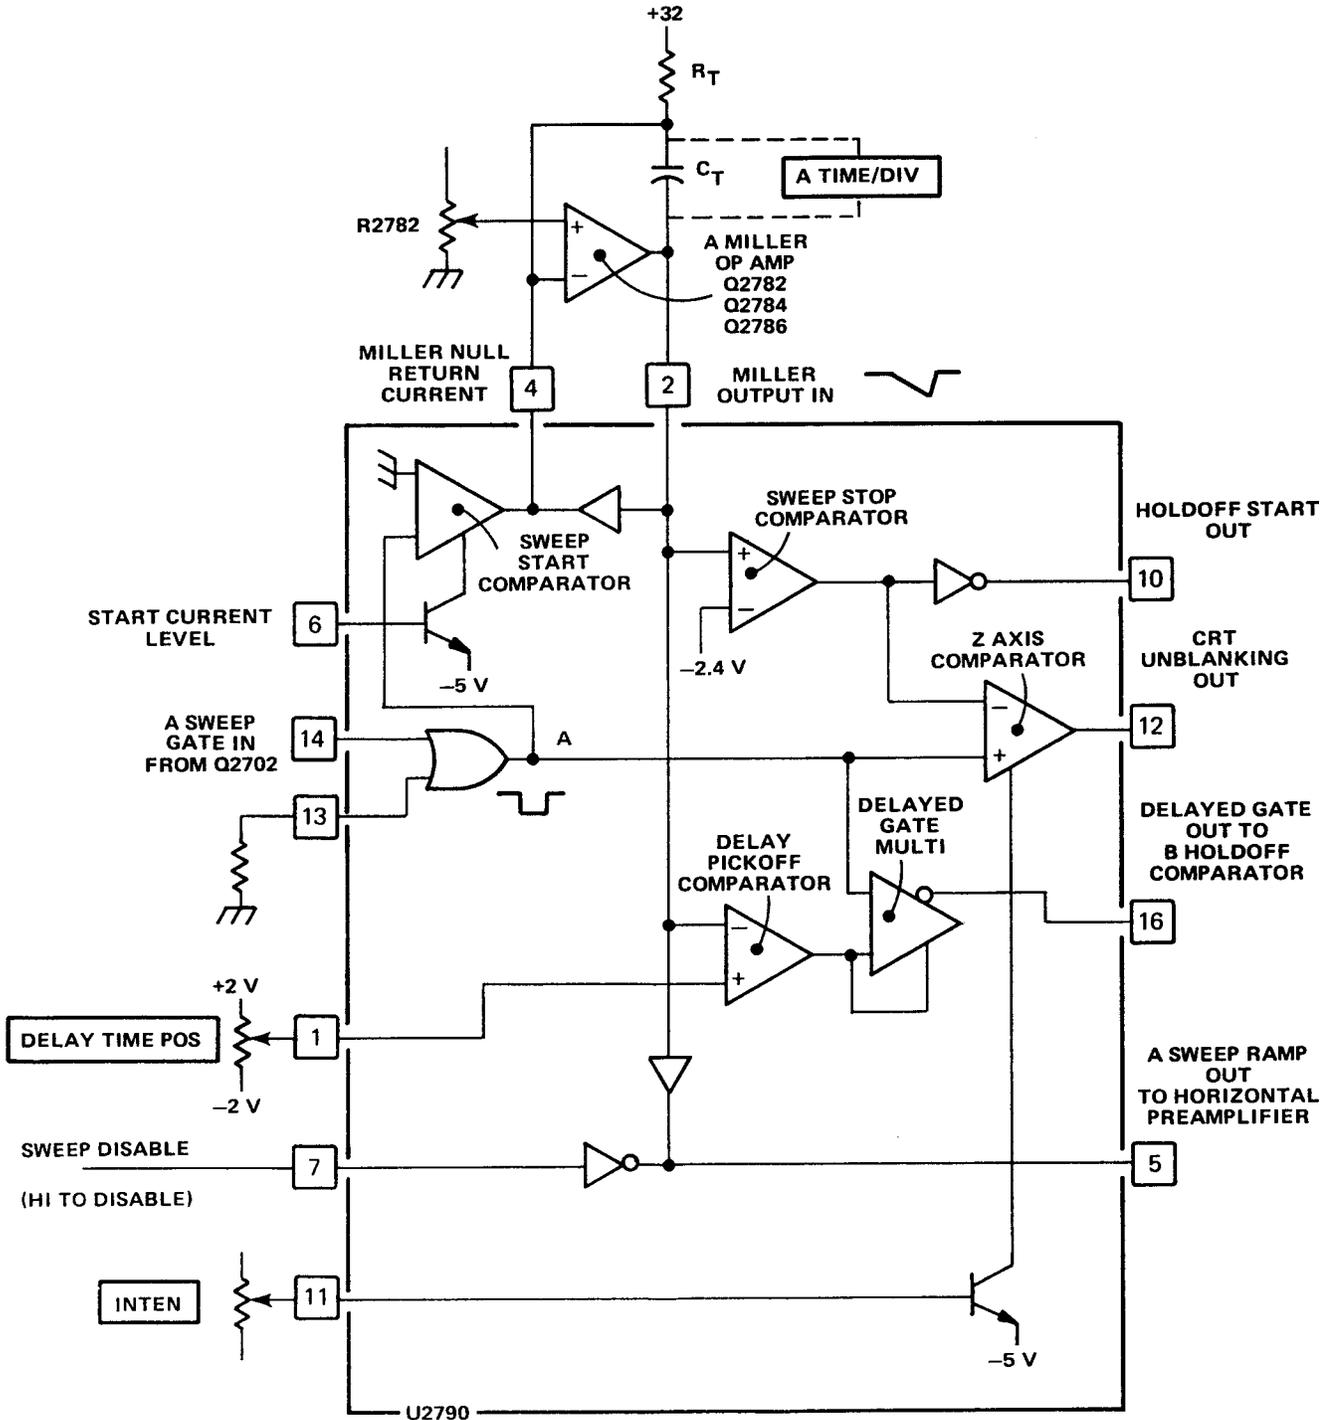
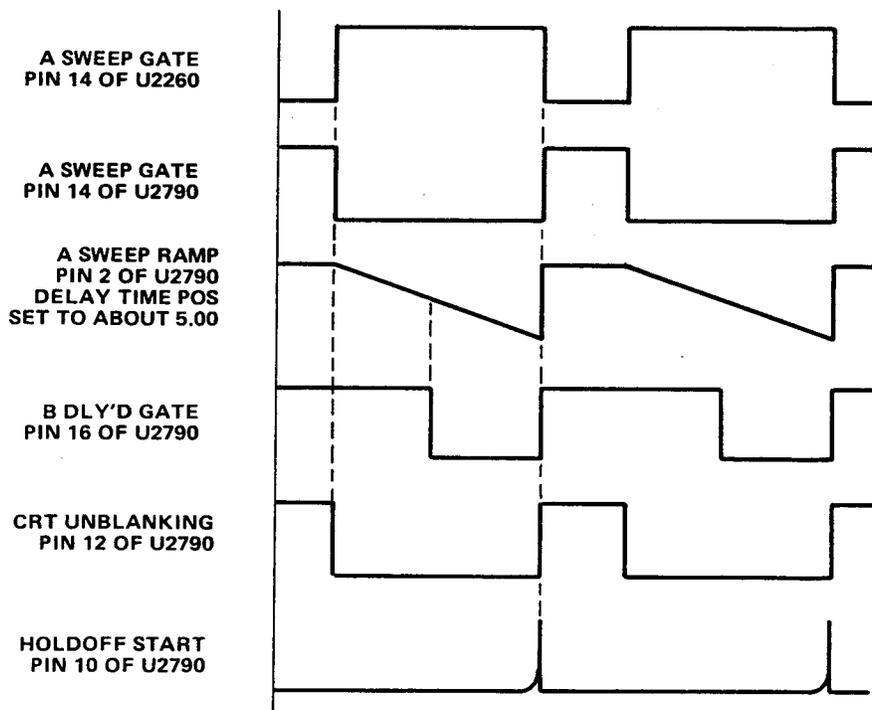

Figure 4-6. Simplified diagram of the A sweep generator.
Figure 4-7. Waveforms produced during A sweep operation.
(4) A Sweep Generator. A sweep generator consists of U2790 and associated circuitry. Figure FO-6 shows a complete schematic diagram of the circuit. Figure 4-6 shows a simplified diagram of the circuit. Figure 4-7 shows the waveforms produced during A sweep generation.
U2790 is HI. This sets point A (see Figure 4-6) HI. This causes the output of the sweep start comparator to appear as a low-impedance point. The output of the sweep start comparator supplies current through pin 4 of U2790, and through R_T , to set the inverting input of the Miller op amp to the same voltage as the non-inverting input (the sweep
2 At Triggering. Pin 13 is always LO, except in the X-Y mode. When pin 13 is HI, point A (see Figure 4-6) is HI regardless of the state of pin 14. When the sweep gate causes pin 14 to go LO, point A steps LO (see Figure 4-6). This causes the output of the sweep start comparator to become a high-impedance point. The timing capacitor (C_t) starts charging through the timing resistor (R_t).